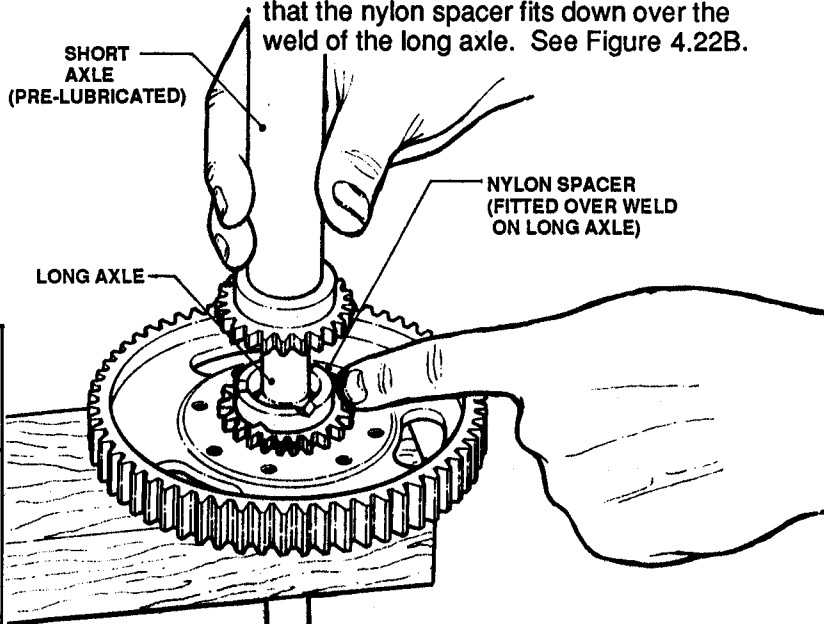

FIGURE 4.22B
6. Install short axle over long axle, insuring that the nylon spacer fits down over the weld of the long axle. See Figure 4.22B.